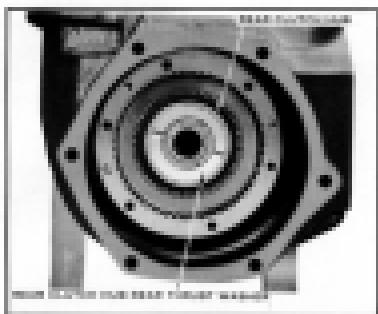

Fig. 487. Inside rear clutch hub rear sheet washer.
9. Position rear clutch hub rear sheet washer in the counterbore of rear hub and retain with vaseline. (Fig. 487)